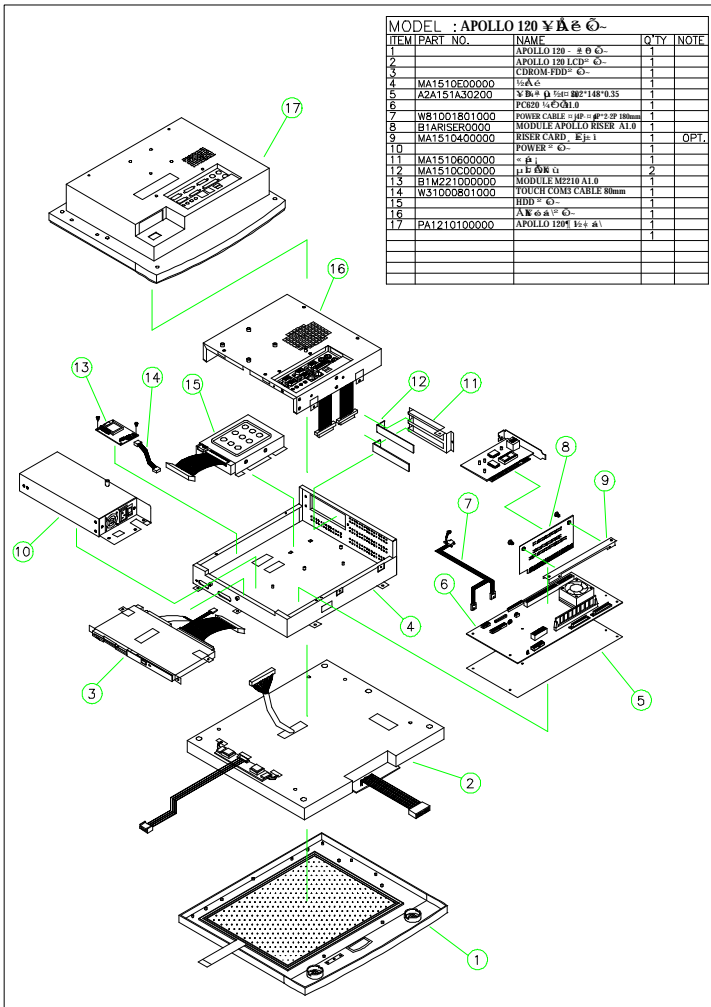
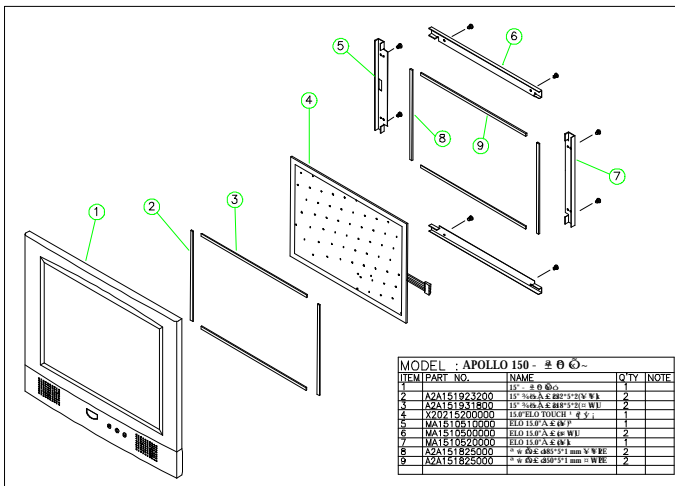
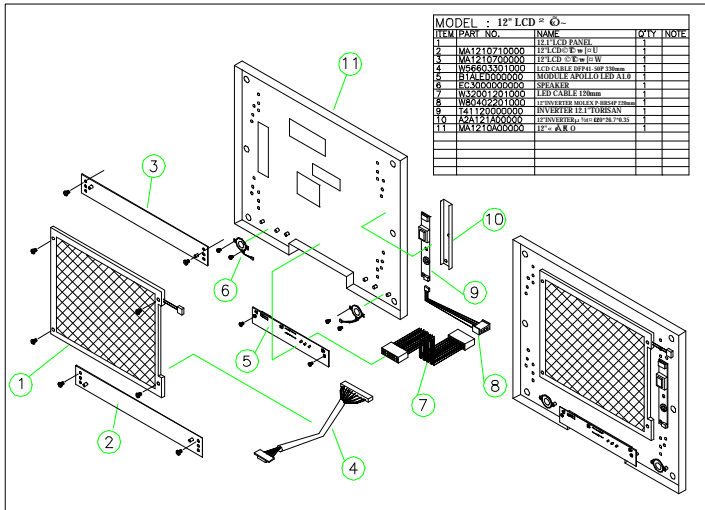
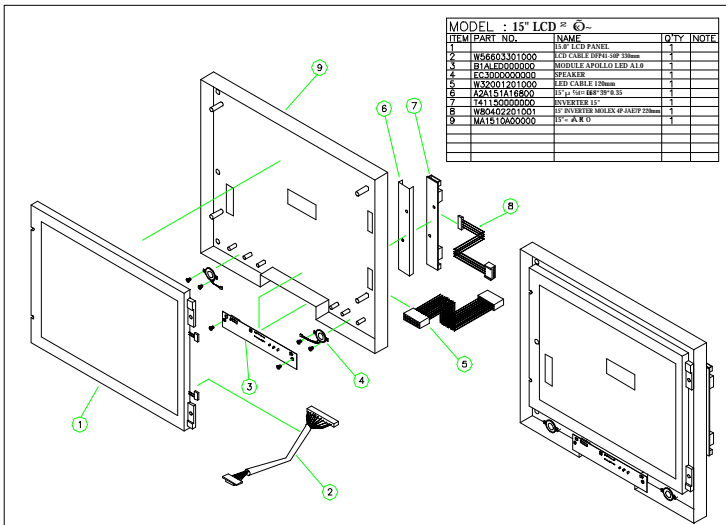

FIGURE 5-1: APOLLO 120 EXPLODED DIAGRAM
FIGURE 5-7: APOLLO 120 FRONT BEZEL ASSEMBLY
FIGURE 5-8: **APOLLO 120** LCD MODULE ASSEMBLY
FIGURE 5-9: **APOLLO 150** LCD MODULE ASSEMBLY
3. Tape the motherboard insulator (5) (Fig. 5-1 & 5-2 (5)) to the motherboard (6) first. The insulator is to separate the electronic components on the reverse side of the motherboard from the metal compartment to prevent short circuitry caused during system operation.
4. Fix the motherboard (6) to the chassis with 7 PMS anti-fallen PMS 3*6 screws.
5. The IR/LED 2*13-pin cable (Fig. 5-7 (7) & Fig. 5-8 (5)) has to go through the rectangle opening located at the bottom side of the chassis, then connected to motherboard's **J1**, the HDD LED & ACPI LED & SMI connector.
1. For Elo touch, the touchscreen cable (Fig. 5-1. (14)) is a 2*5-pin to 2*5-pin flat cable. One end is connected to the touchscreen controller first.
4. Fix the touchscreen controller (13) to the bracket with 2 PMS 3*6 screws.
Figure 5-8 and 5-9 illustrate the way to assemble the APOLLO's LCD module.
1. Refer to Figure 5-8. There are two LCD brackets (2) & (3) used to fix to the LCD panel (1) to the LCD holder (11) from the up & down sides.
6. Attach the insulator (10) to the inverter (9).
7. The inverter cable (8) is a 4-pin to 4-pin cable with wafer connectors at both sides. Connect the one end to inverter first. The other end is for later connection to the **INV1** on the motherboard.
10. For APOLLO 120, the IR/LED board (2) is to be fixed to the lower side of the LCD holder.
1. Refer to Figure 5-9. The standard LCD used in APOLLO 150 is either 15.1" TTL LG 151X2 or 15" LVDS Chi Mei M150X3-L01 or their equivalent. The assembly of TTL LCD differs from that of the LVDS LCD.
2. Fix the LCD panel (1) to the LCD holder (9) with four PMS 3*8 screws.
7. Attach the insulator (6) to the inverter (7).
8. The inverter cable (8) for APOLLO 150 is a 7-pin to 4-pin cable with wafer connectors at both sides. Connect the 7-pin end to the inverter first. The other end is for later connection to the **INV1** on the motherboard.
12. The two speakers (Fig. 5-8 (6)) are to be fixed to the right and left sides of the IR/LED board. The speaker wires are to be connected to the 2-pin header on the IR/LED board.